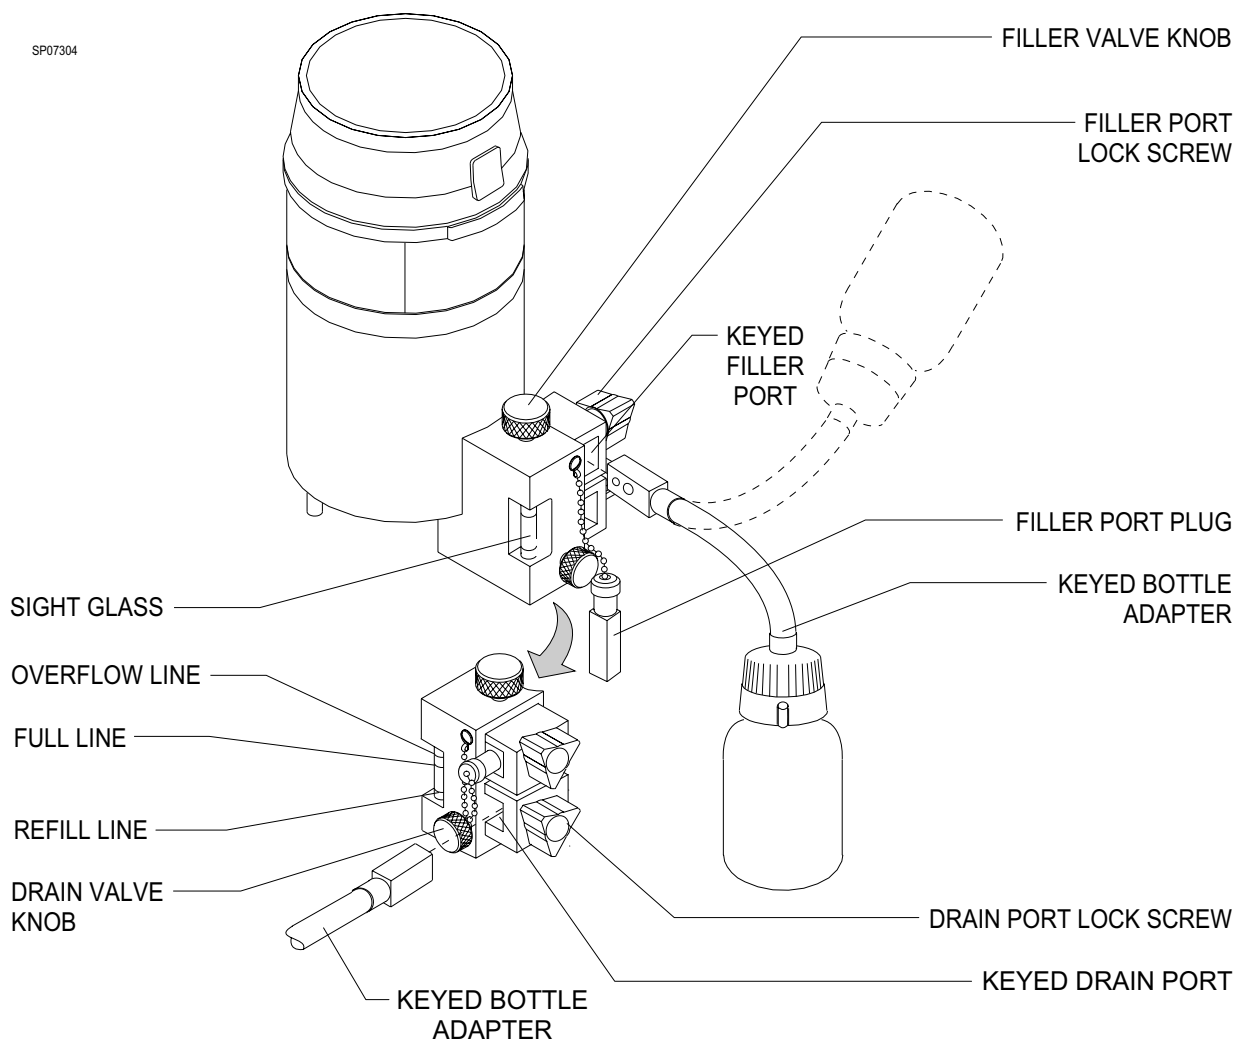

**Figure 3: VAPORIZER WITH OPEN FUNNEL SPOUT FILLING SYSTEM**
10. Make sure that the drain valve is closed. See Figure 3.